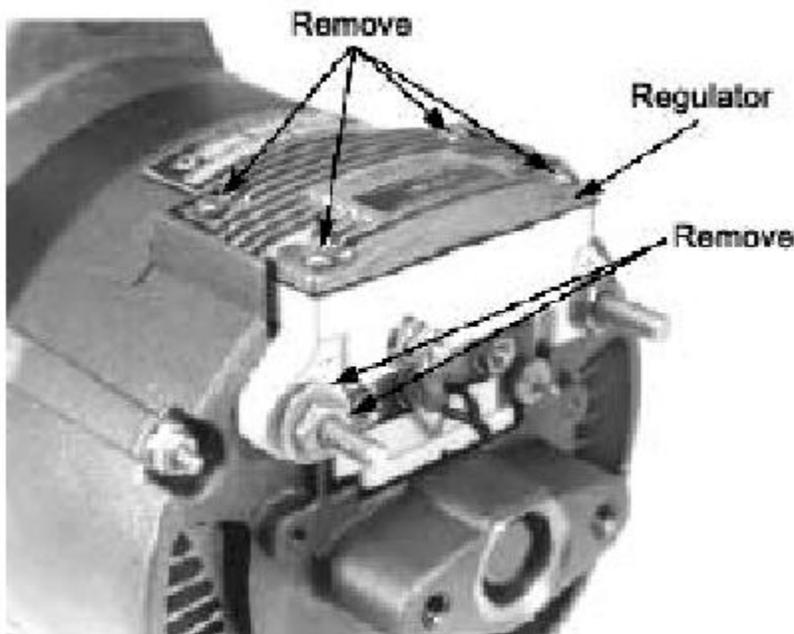

Figure 1
2. Remove four screws from regulator cover. Remove the two #10 nuts from the terminal located on the regulator holder to disconnect the diode trio lead (if alternator is equipped with a diode trio), or the jumper wire connected to the A/C tap. Tilt regulator up and remove the 10-32 square head screw to disconnect regulator blue lead (also white with blue tracer) (Figure 1).